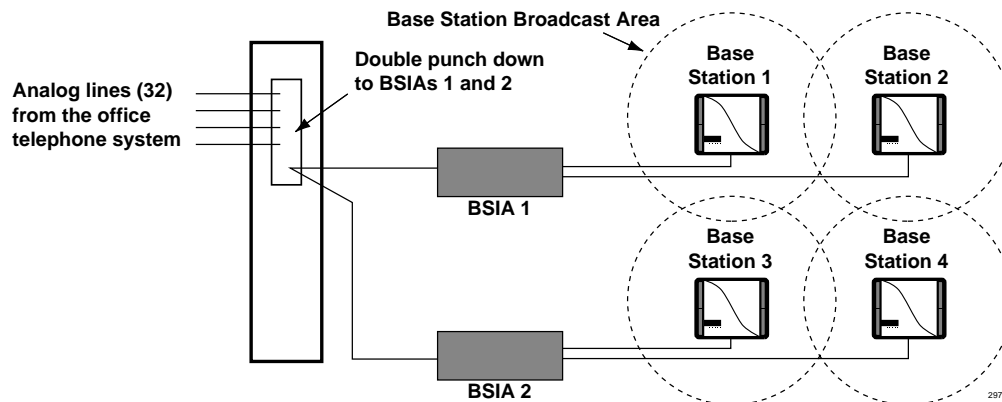

Figure 16-8 Multiple BSIA's in One System
- ◆ Multiple BSIA systems as a single system (see Figure 16-8)